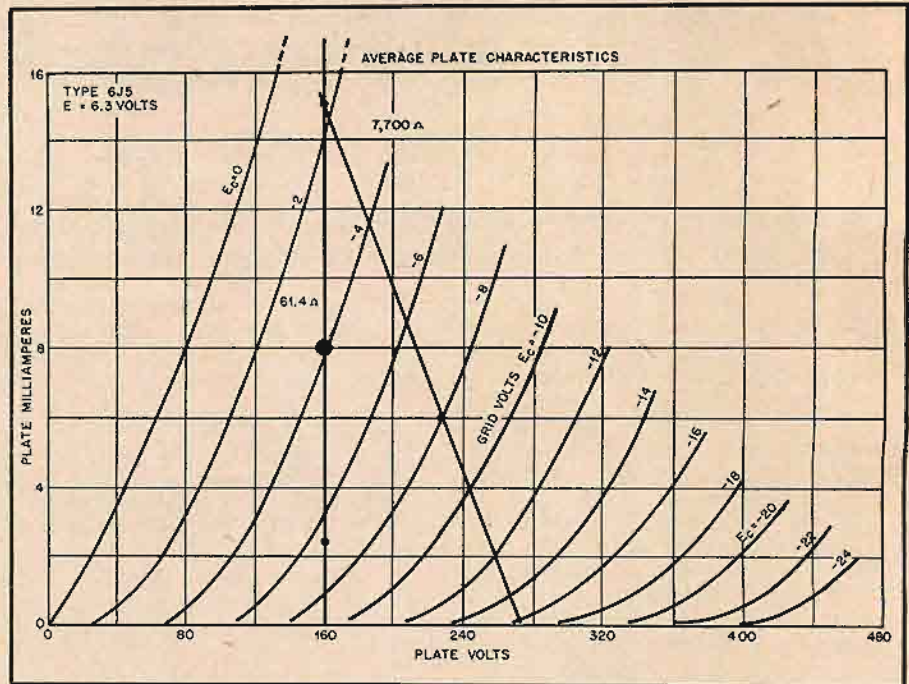

Fig. 3. Plate family for 6J5 tube to show effect of feedback on tube performance.
The feedback voltage developed across  $R_o$  will be the difference between the total output  $E_p$  of -50.0 volts and  $E_o$  from Eq. (18) equal to -27.5 volts or -22.5 volts. When  $\beta$  is increased to 0.50, the voltages  $E_o$  and  $E_c$  will be equal in amplitude, a condition necessary for phase-inverter service. Cathode-follower operation results when  $\beta$  is made equal to unity, in which case the entire plate load is  $R_o$ , since  $R_o$  is zero in this case. Notably in television work, the load impedances often used with cathode followers are much lower than plate-loaded applications. In these applications, the gain  $A$  is reduced considerably, thereby producing smaller feedback voltages across the load. As long as load impedances are fairly high, normal plate-voltage values can be used since the plate current will be limited by the IR drop in the load. With loads in the neighborhood of 75 to 300 ohms, plate voltages must be reduced considerably; this is confirmed by reference to the 6J5 curve in Fig. 3. A low value of load will cause the load line to approach the vertical as the load impedance approaches zero. The operating point must be chosen so the tube will not be driven into either cutoff or saturation regions. The 6J5 is shown operating with 160 plate volts, which will cause a plate dissipation of 1.28 watts, one-half of its rated 2.5 watts. A bias of 4.0 volts places the operation about midway on the graph at this point; thus the 8-ma plotted current will necessitate a load resistor of 500 ohms to produce the proper bias. Assuming the tube is being used to feed a properly terminated 70-ohm transmission line, the tube as a generator will actually look into a
61.4-ohm load, which is the parallel combination of 500 and 70 ohms. The amplifier gain  $A$  with this load from Eq. (1) will be
From Fig. 3, a grid drive of approximately 2.5 volts is indicated since anything greater will drive the tube into nonlinear operation. A 2.5-volt drive will swing the plate current between 2.5 and 15 milliamperes. The output  $E_o$  will be